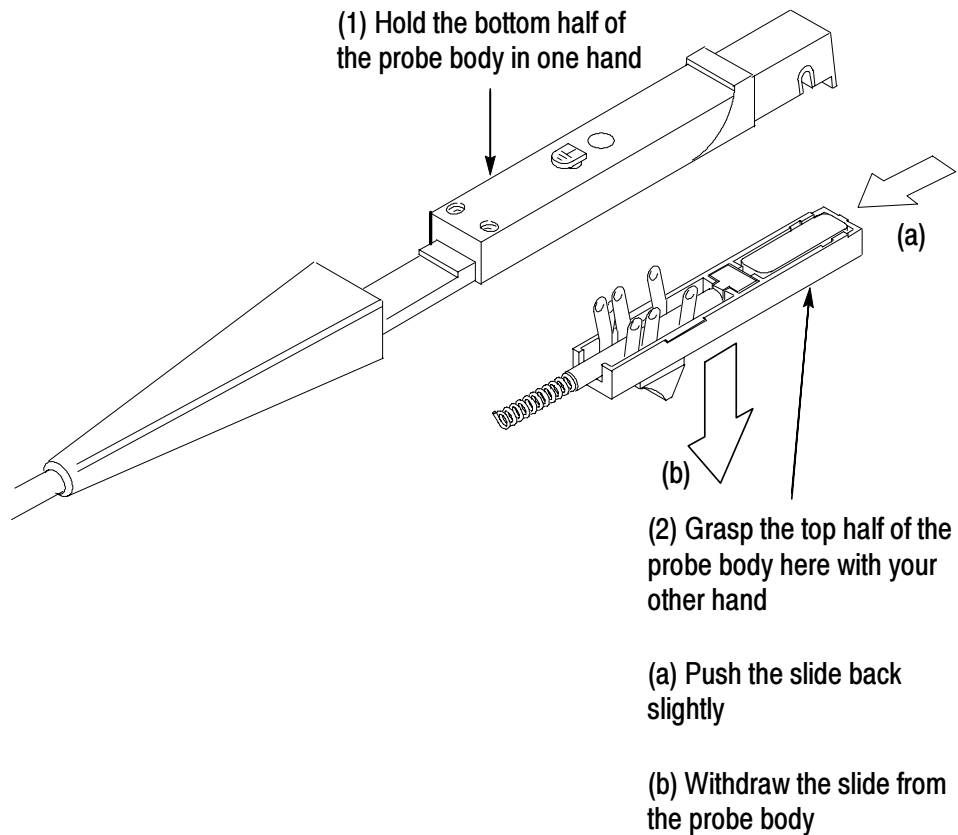

Figure 27: Removing the Probe Slide
5. Turn the probe upside down, push the slide back slightly, and remove the slide (see Figure 27).